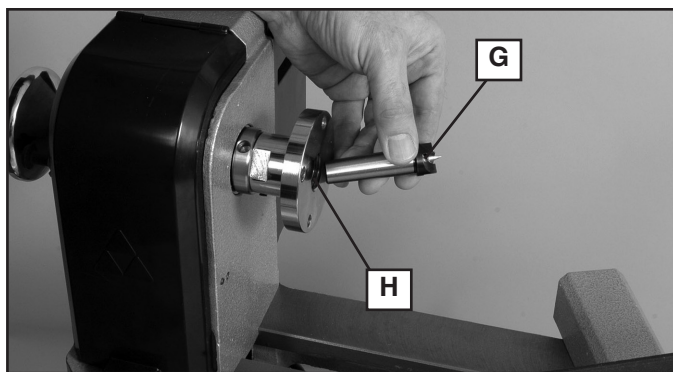

Fig. 6
Drive spur center into the workpiece using a soft mallet. Then fit spur center (G) Fig. 6 into the headstock spindle bore (N) snugly.